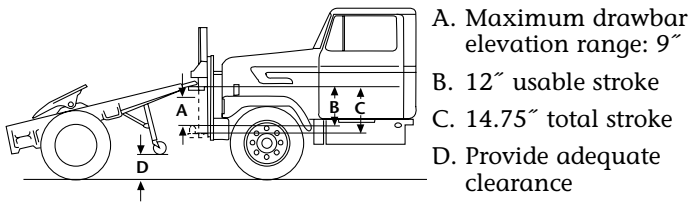

Figure 1
2. Locate the Dolly Master at an elevation that provides adequate clearance between the ground and the dolly jack when the Dolly Master is in the up position (see *Figure 1*). Also, provide clearance above the unit as shown.